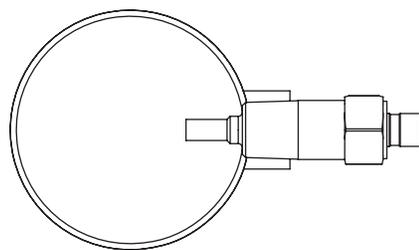

Figure 1
- For horizontal pipes: mount unit on side (Figure 1).